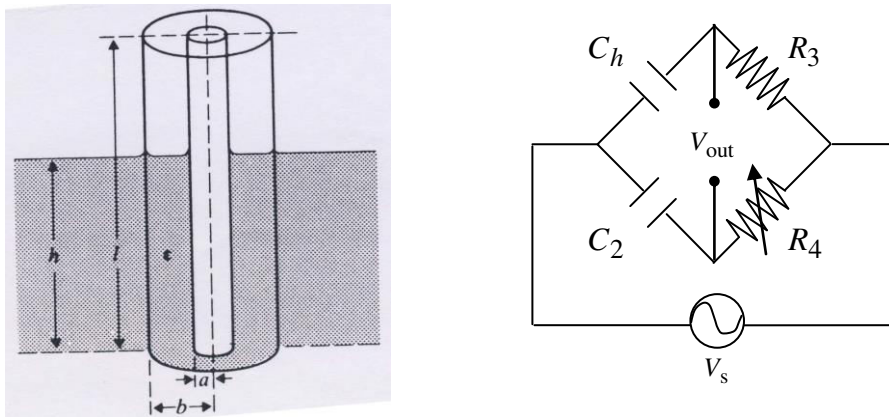

Fig. 3
- (b) In designing a sensing circuit for measuring the level of oil (ϵ_{oil}) inside a tank, the capacitive level sensor has been proposed. Meanwhile, the simplified four-arm De-Sauty bridge has been suggested for signal detection. Figure 3 shows the instrumentation and measurement system. In this figure R_4 and C_2 are pure resistance and capacitance respectively, C_h is the sensor capacitance at a height h of the oil and R_4 is the variable resistance.
- (i) Derive the balanced conditions of Fig. 3,